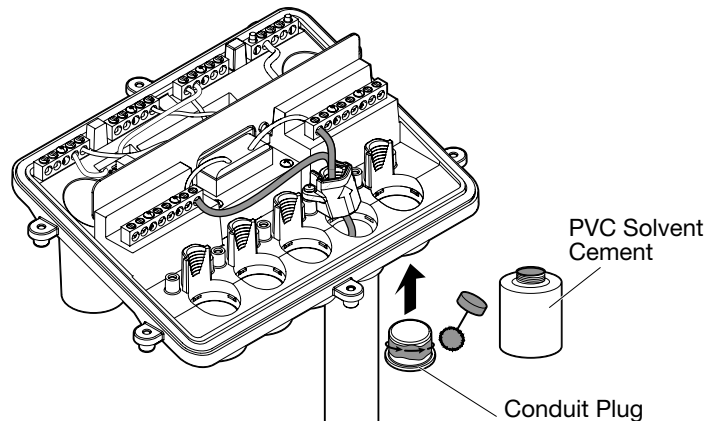

FIG. 10. Securing Conduit Plugs
12. Seal all unused conduit openings using the provided conduit plugs. See FIG. 10: